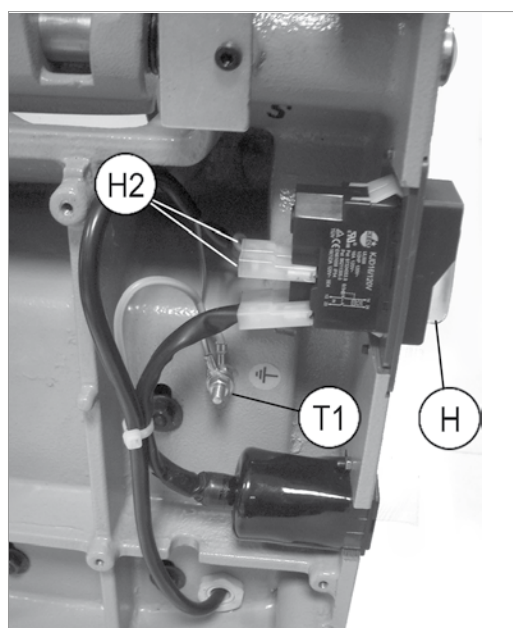

Fig.38
- 2) Disconnect the 2 connectors (H2). Loosen the nut (T1) and disconnect the earthing wire (Fig.38).